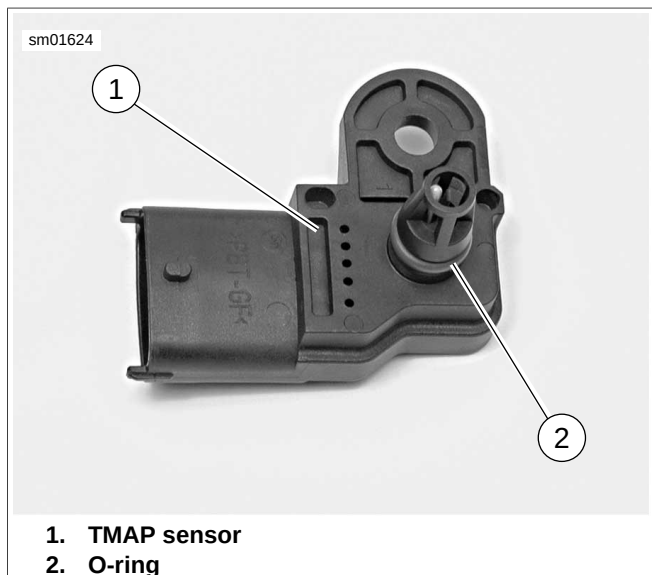

Figure 4-62. TMAP Sensor
1. See Figure 4-62. If re-using TMAP sensor (1), inspect o-ring (2) in groove of sensor for cuts, tears or signs of deterioration. Install **new** o-ring if necessary.
1. See Figure 4-62. If re-using TMAP sensor (1), inspect o-ring (2) for cuts, tears or signs of deterioration. If necessary, replace with **new** o-ring.